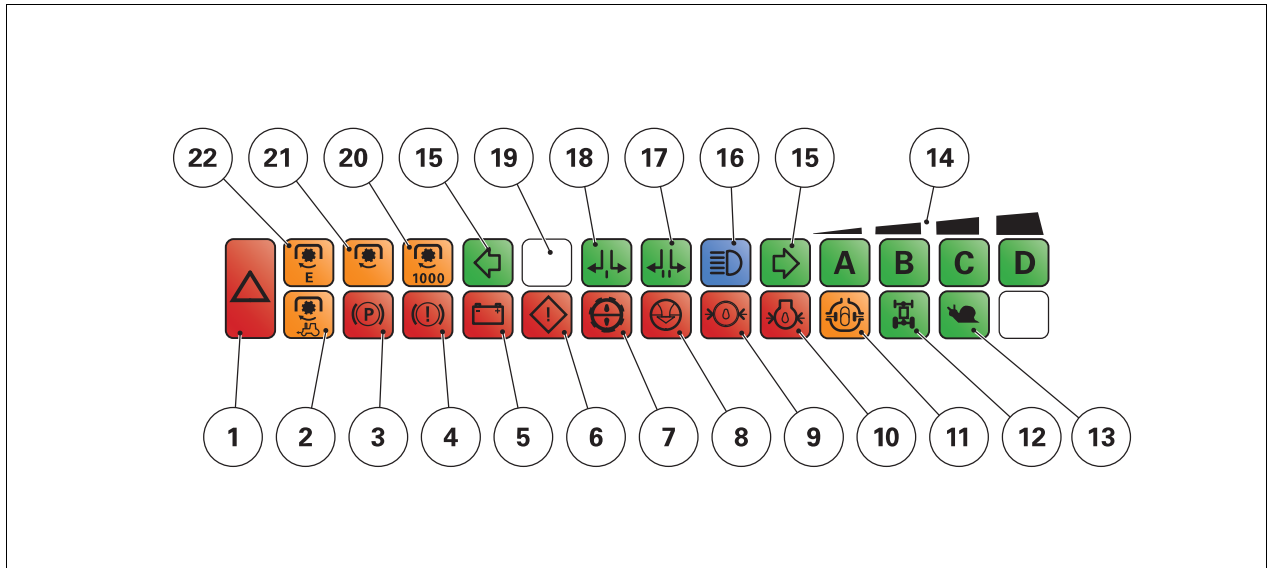

Fig. 3.
| <ul style="list-style-type: none"> <li>(1) Start switch <a href="#">fig. 5</a></li> <li>(2) Control unit <a href="#">fig. 4</a>This assembly comprises the direction indicator, windscreen wiper, front and rear windscreen washer and horn.</li> <li>(3) PowerShuttle control</li> <li>(4) Steering wheel adjustment <a href="#">fig. 7</a></li> <li>(5) Instrument panel <a href="#">fig. 3</a></li> <li>(6) Rotary beacon switch (platform version only).</li> <li>(7) Side lights and dipped lights.</li> </ul> | <ul style="list-style-type: none"> <li>(8) Rear work lights (operational when sidelights are switched on).</li> <li>(9) Front work lights (operational when sidelights are switched on).</li> <li>(10) Hazard warning lights and control switch.When this button is pressed, the front and rear flashing lights come on together with the corresponding indicator lights on the instrument panel.</li> <li>(11) Work lights on hand rail.</li> </ul> |
(1) Indicator light panel fig. 3
(2) Tachometer